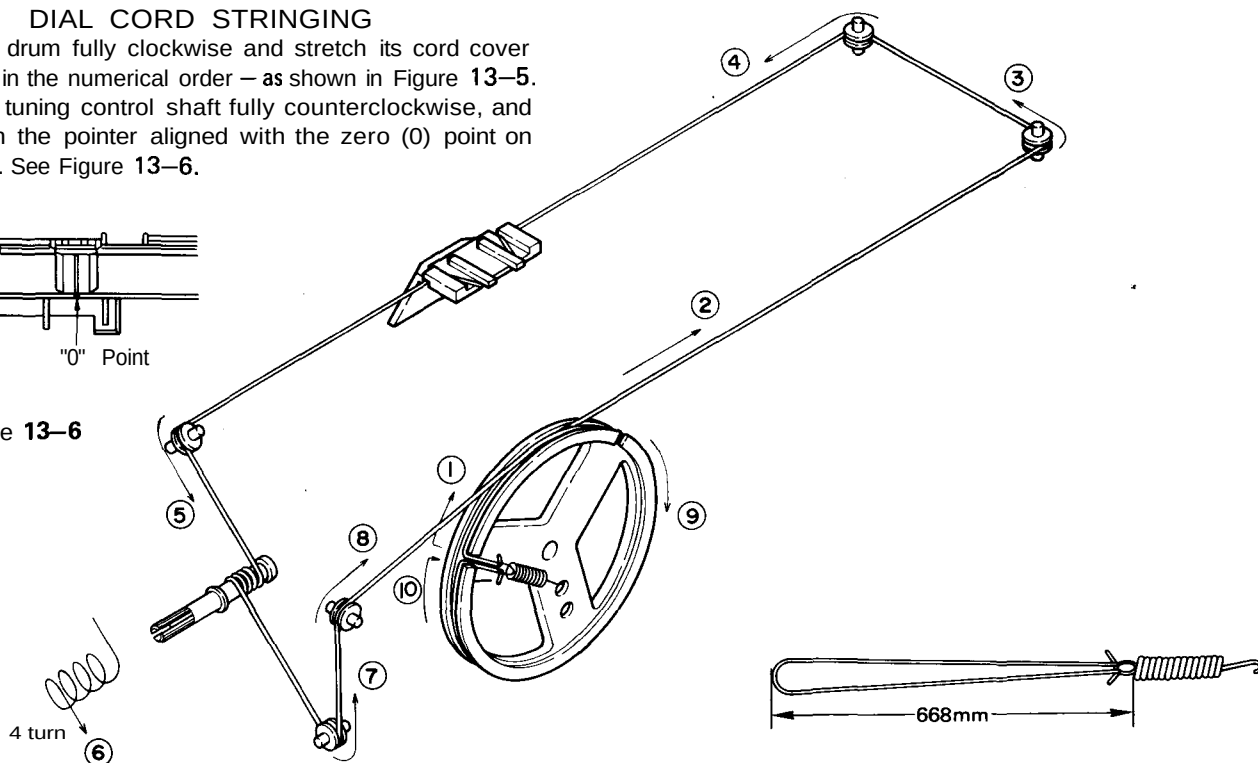

Figure 13-5
- Turn the drum fully clockwise and stretch its cord cover the parts in the numerical order — as shown in Figure 13-5.